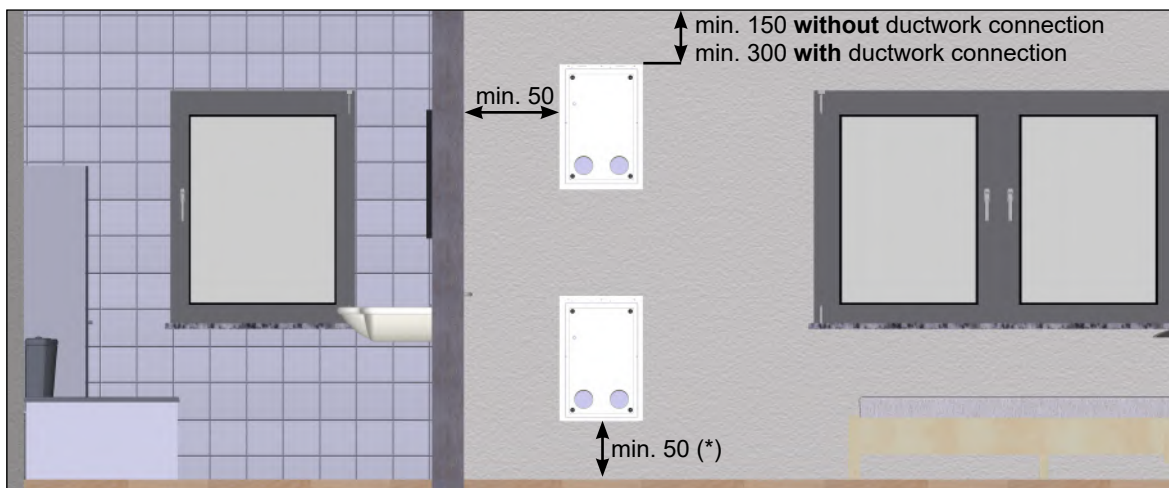
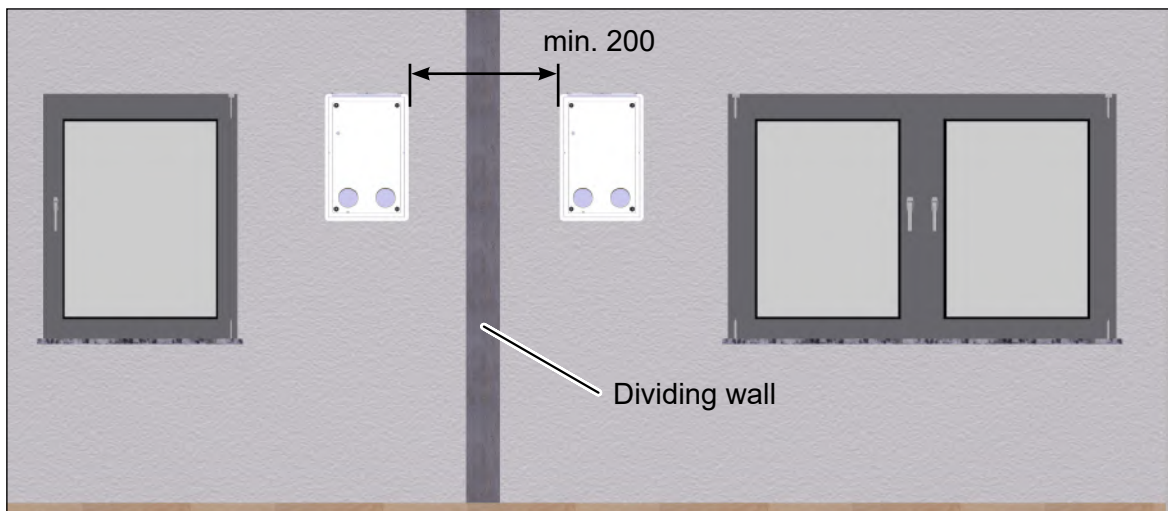

Fig. 4: Minimum distances and options for positioning the M-WRG-II M/MB installation kit, dimensions in millimetres
Fig. 5: Lateral minimum distance between two wall boxes, dimensions in millimetres
- ▶ Maintain the following minimum distances (see Fig. 4 and Fig. 5):
- The distance between the side and bottom edges of the wall box and adjacent surfaces should be at least 50 mm (exception: if a condensate connection is used, see (*) in Fig. 4 on page 10). The ventilation unit will be easier to operate if this minimum distance is maintained. It also allows the air filter to be replaced without obstruction.